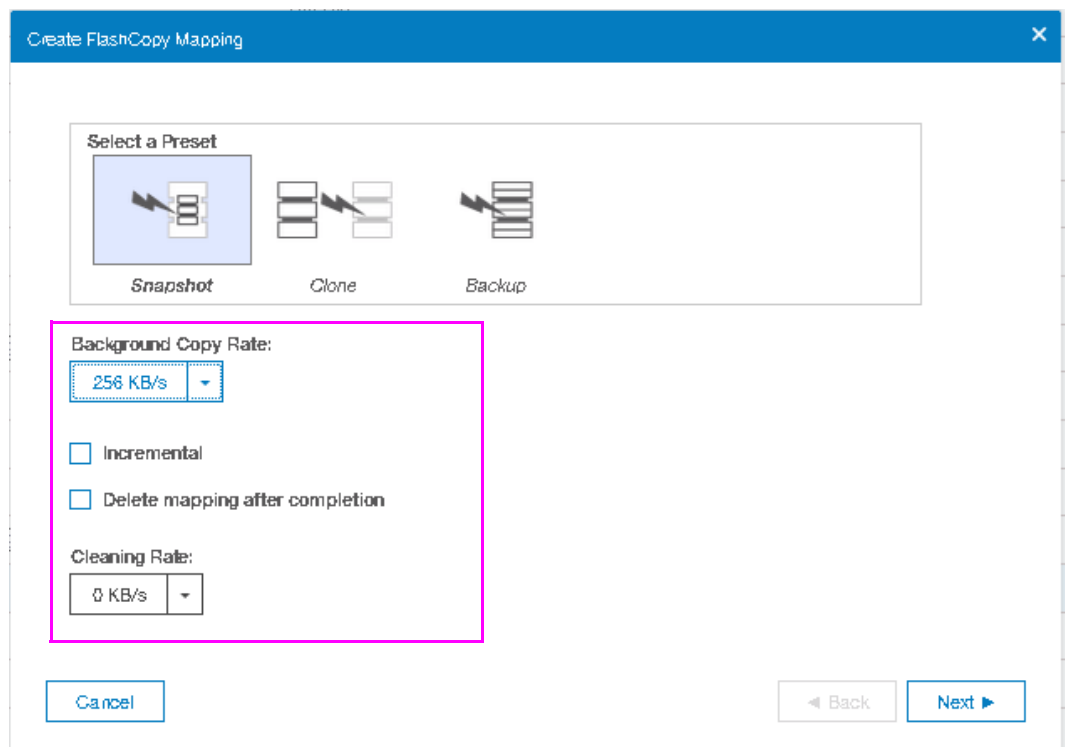

Figure 10-25 Create FlashCopy Mapping Preset customization
3. For each preset, you can customize various advanced options as shown in Figure 10-25.
You can customize the advanced setting options that are shown in Figure 10-25 on page 489: